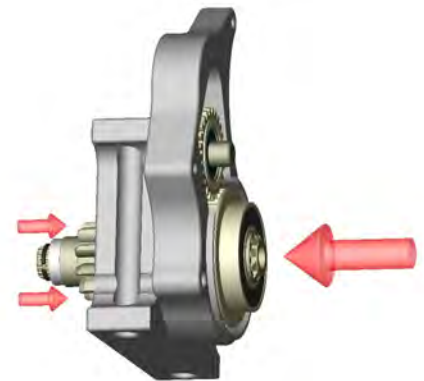

Figure 2
2. Push the pinion shaft forward into the *clutch assembly* while simultaneously pushing the *locking collar* and *pinion* back (Figure 2).